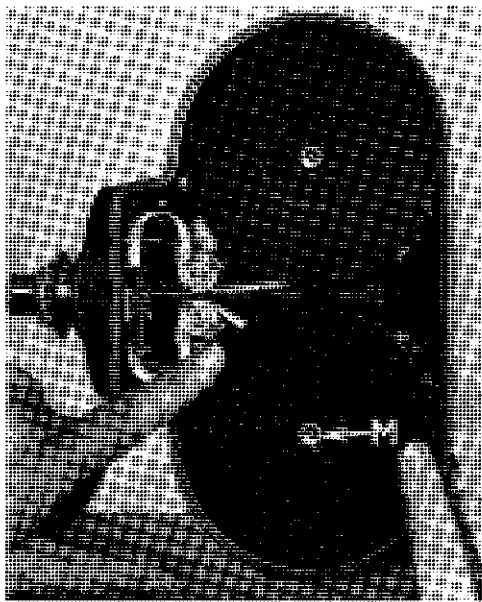

Figure 11
11. Insert the end of the leader in the take-up spool hub slot, as shown in Figure 10. Revolve the spool to the right (clockwise) to take up the slack. Then place over the take-up spindle M, Figure 11.